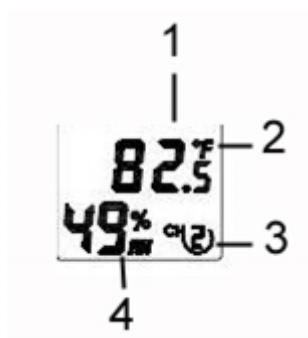

Figure 10
6. Verify the correct channel number (CH) and temperature units of measure (°F vs. °C) are on the display, as shown in Figure 10.